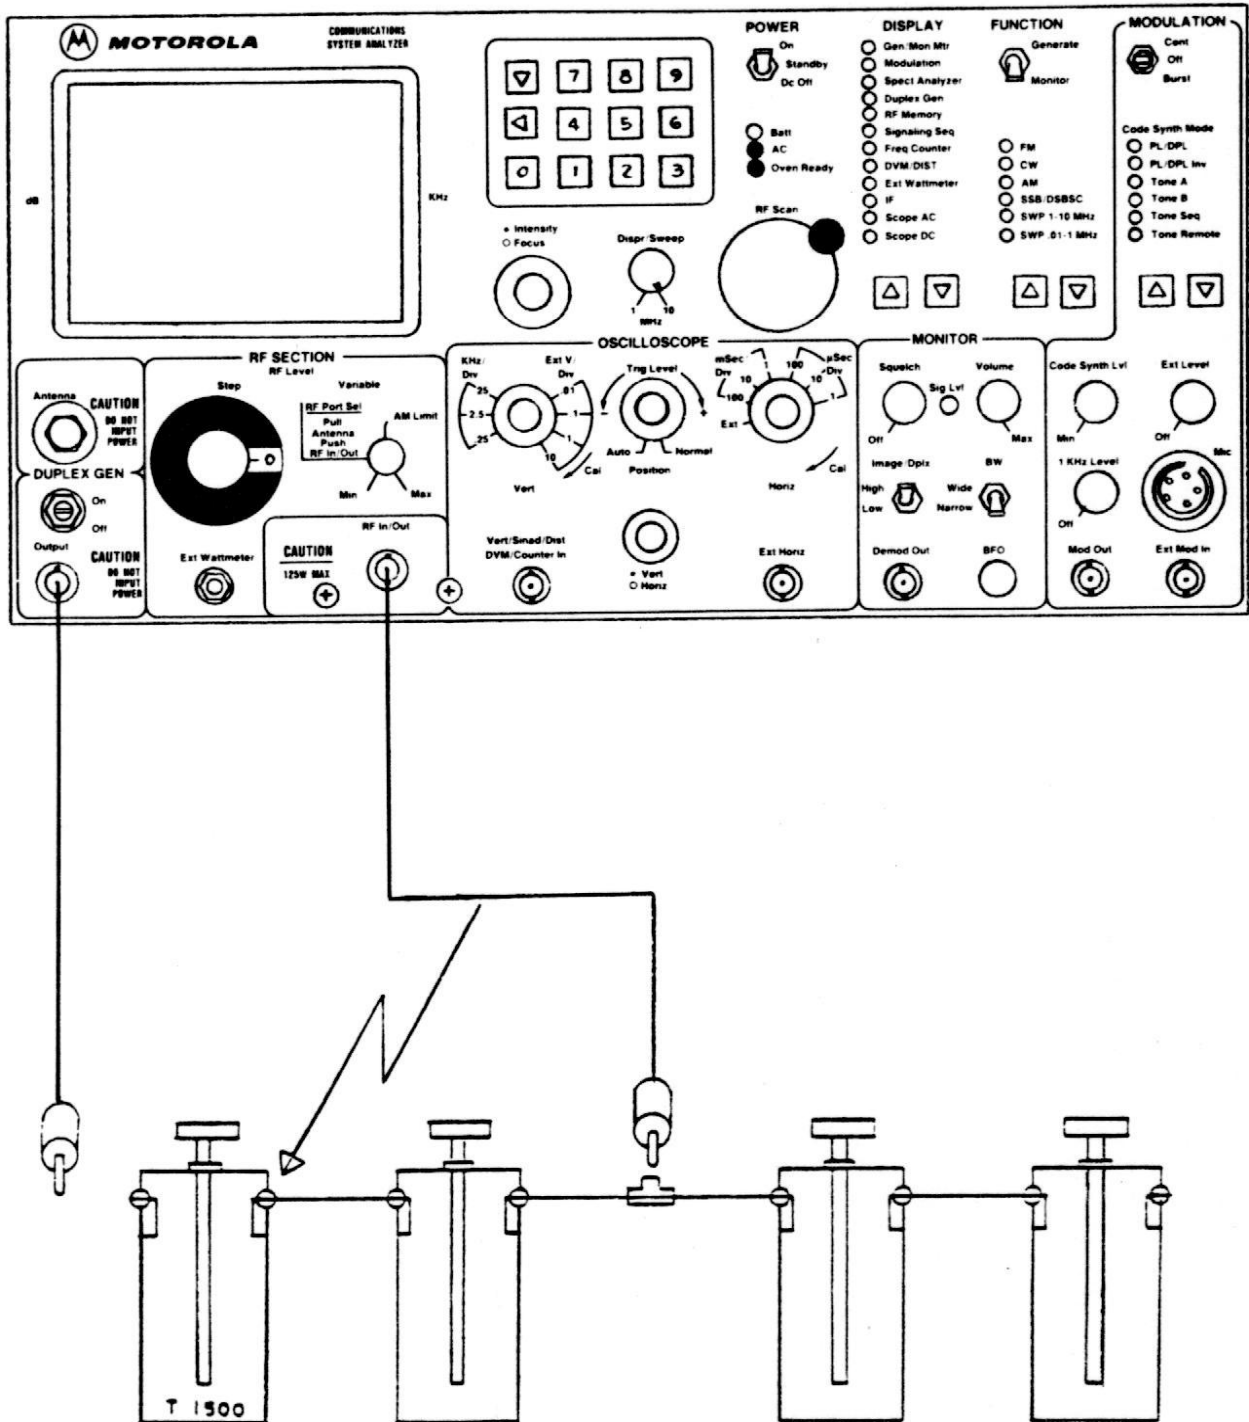

FIGURE 4-20. BANDPASS CAVITIES SETUP
1. Connect the Analyzer to the device under test, as shown in figure 4-20. When tuning a single cavity, connect the RF In/Out to the cavity's output connector. When tuning a bandpass duplexer, connect the RF In/Out to the duplexer's antenna port.